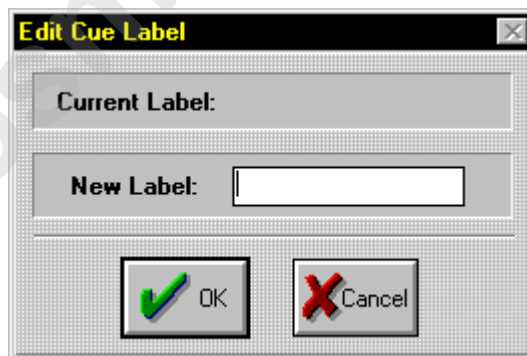

Figure 8.14. Edit Cue Label Dialogue Box
1. Double click the **Label** field in the cue to edit. This brings up the **Edit Cue Label** dialogue box. Refer to Figure 8.14.